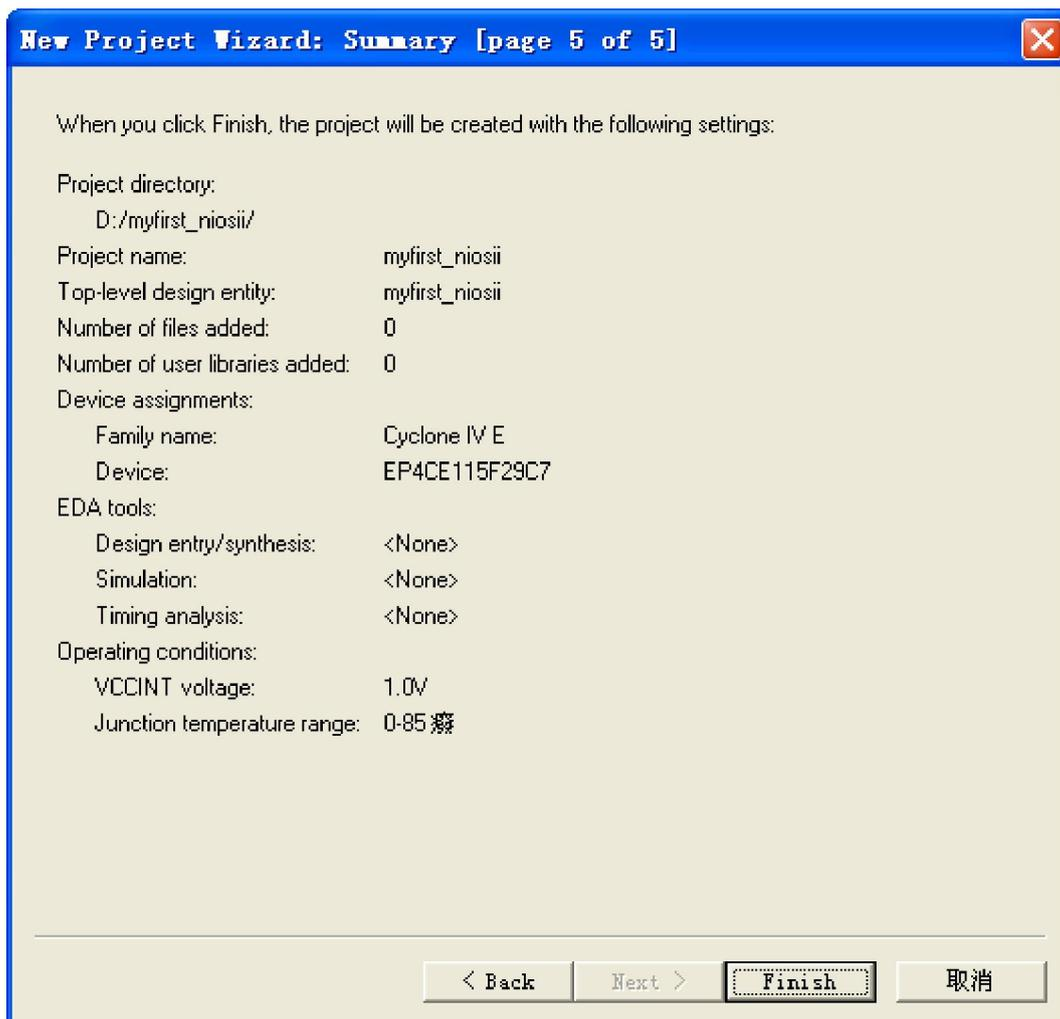
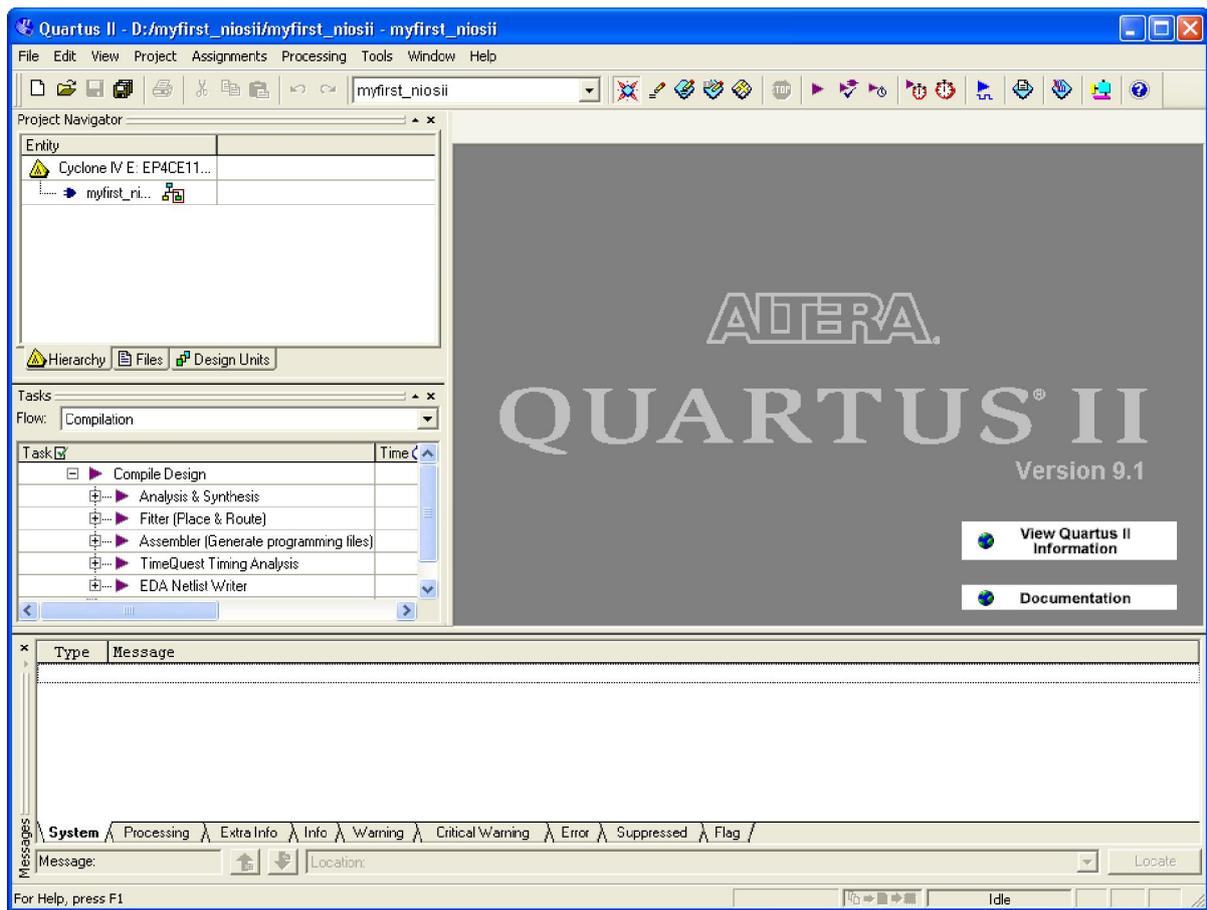

Figure 1-7 New Project Wizard: Summary [page 5 of 5]
Figure 1-8 A New Complete Project
4. Click **Next** and will see a window as shown in Figure 1-7. Figure 1-7 is a summary about our new project. Click **Finish** to finish new project. Figure 1-8 show a new complete project.